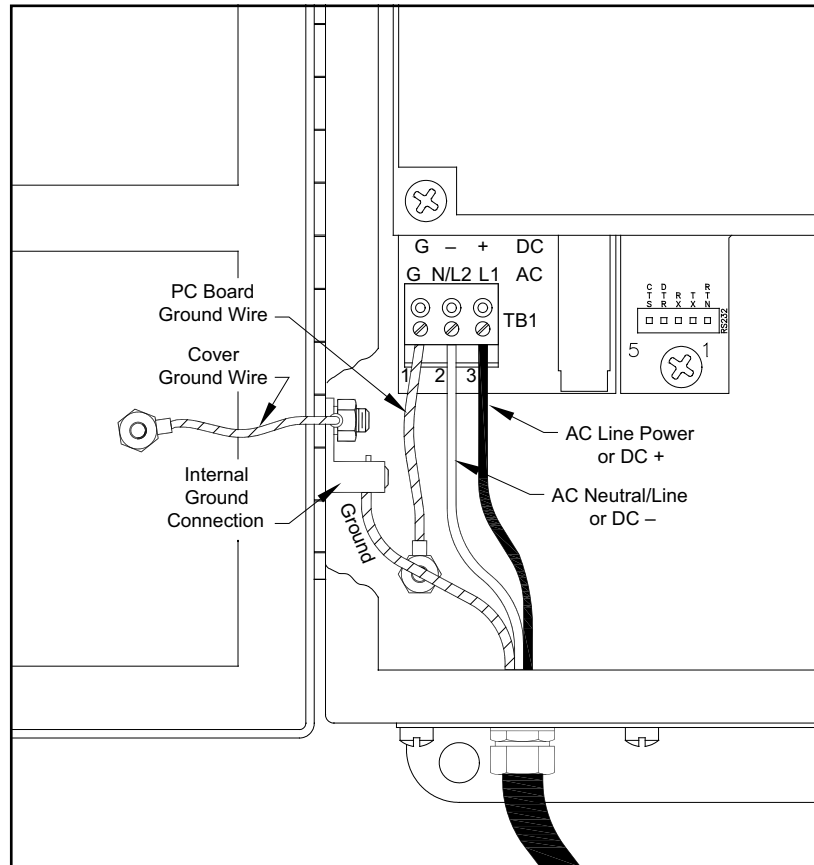

Figure 3: Wiring the Line Power
Refer to Figure 3 on page 7 or Figure 10 on page 18 to locate terminal block **TBI** and connect the line power as follows:
3. Connect the ground lead to the internal ground connection located on the side panel of the enclosure (see Figure 3 below).
4. Connect the neutral or line lead (or the negative – DC power lead) to **TB1-2**, and the line power lead (or the positive + DC power lead) to **TB1-3**, as shown in *Figure 3* below.